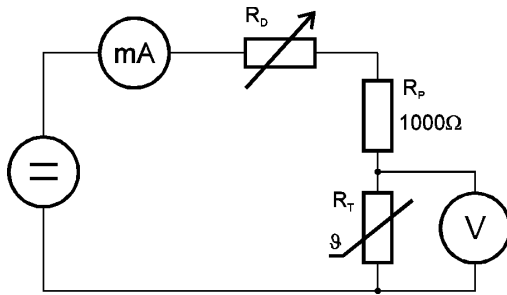

Fig. 1.1
- 1.2 Remove the bead thermistor from bath and measure the volt-ampere characteristic of thermistor in air for the range of currents from $50\text{ }\mu\text{A}$ to 5 mA . In series with thermistor is connected protecting resistor with resistance of $1000\text{ }\Omega$. For adjusting the intensity of small currents use the decade resistor (rheostat box) (see Fig. 1.1).